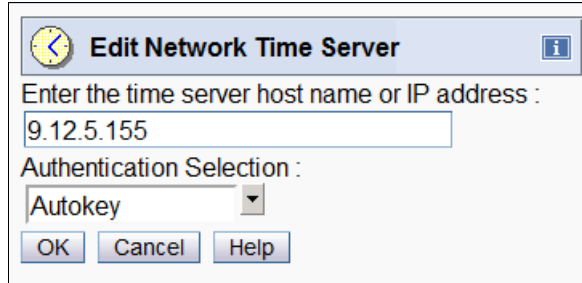

Figure 9-24 HMC: Customize Console Date and Time Edit Network Time Server for Autokey
In this example (see Figure 9-24 on page 525), modify the existing NTP server 9.12.15.155 to use Autokey configuration.
- The Edit Network Time Server window opens (Figure 9-24 on page 525). Select **Autokey** under Authentication Selection, and then click **OK**.